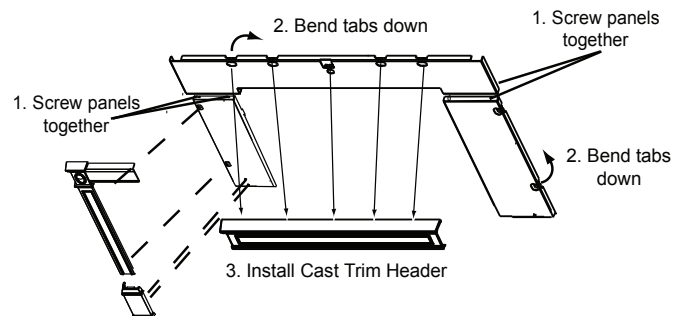

Figure 20.4
4. Now bend the tabs down toward the backside of the panel set, 5 on top and 2 on each leg. Leave the panel set face down (**Figure 20.4**).